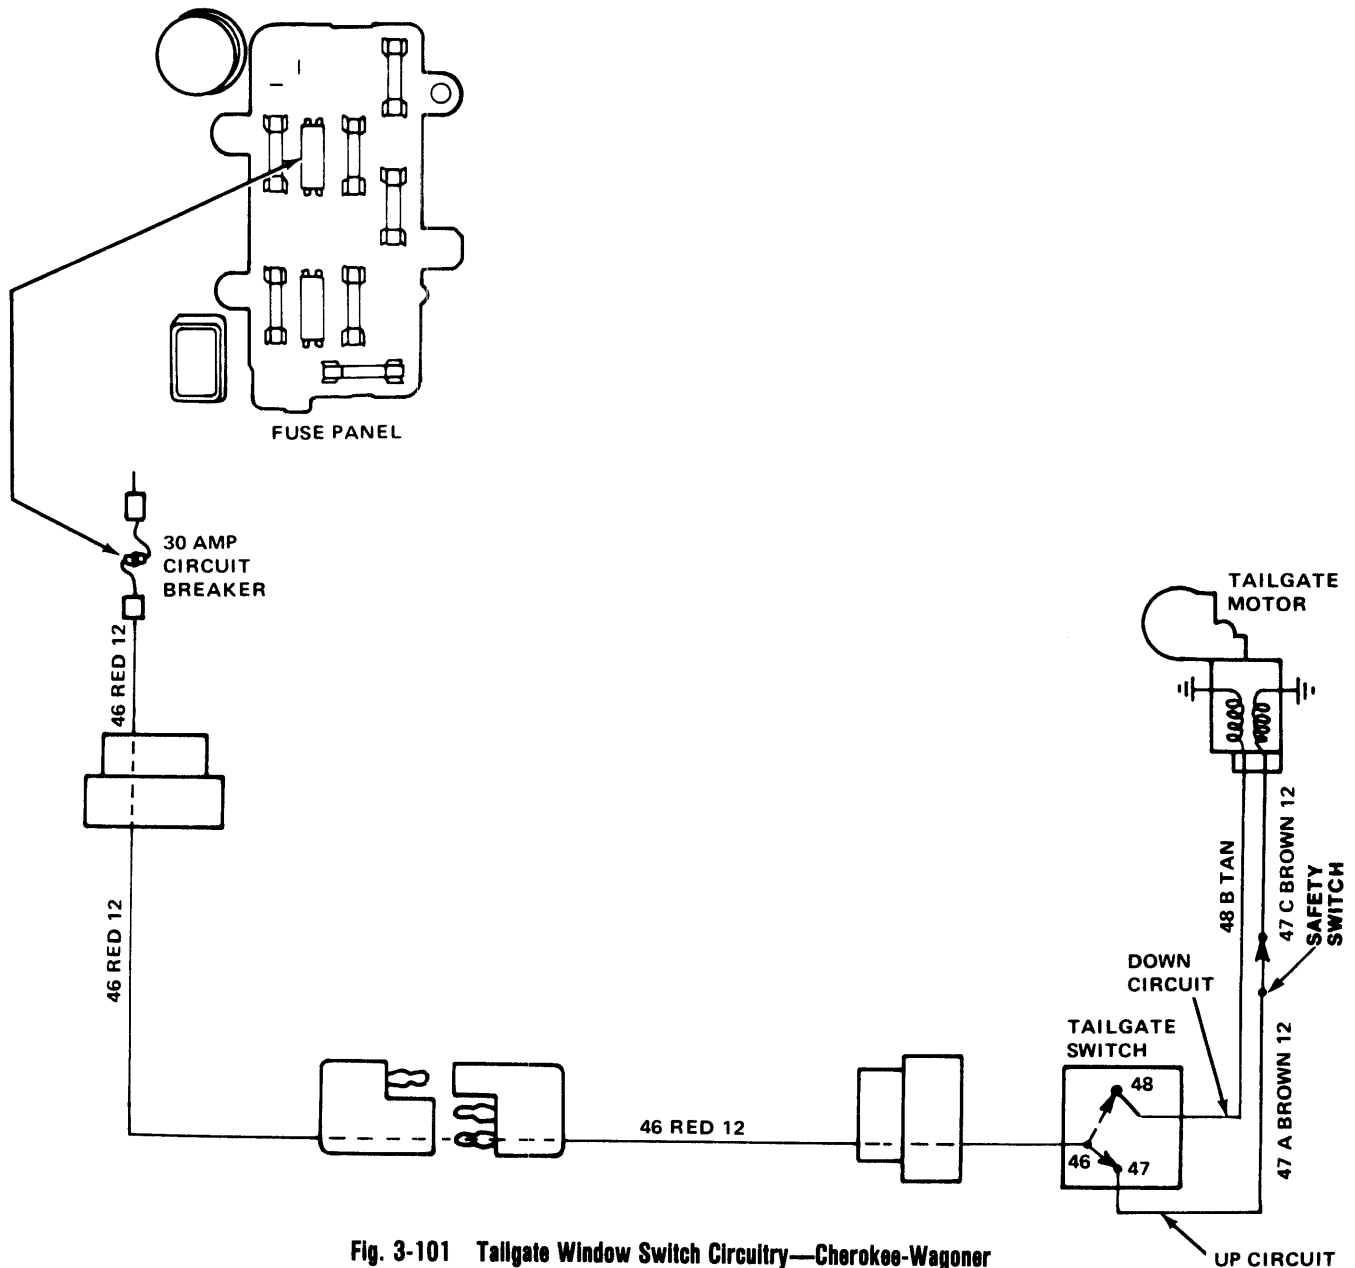

Fig. 3-101 Tailgate Window Switch Circuitry—Cherokee-Wagoner
Voltage is supplied directly to fuse panel, through a 30-amp circuit breaker, and to red (No. 46) wire of tailgate window switch (fig. 3-101).
- (1) Using a 12-vdc test lamp, connect one end of test lamp to ground and place probe to red (No. 46) wire of
tailgate window switch (fig. 3-101). If lamp lights, proceed to step (2). If lamp does not light, repair problem in feed circuit before proceeding.
(2) Place test lamp probe to tan (No. 48A) wire of tailgate switch. Turn tailgate window switch key to down position. If lamp lights, proceed to step (3). If lamp does not light, replace switch.
(3) Place test lamp probe to brown (No. 47B) wire of tailgate switch. Turn tailgate window switch key to up position. If lamp lights, proceed to next test. If lamp does not light, replace switch.
(1) Using a 12-vdc test lamp, connect one end of test lamp to ground and place probe to brown (No. 47A) wire of safety switch (fig. 3-101). Turn tailgate window switch to up position. If lamp lights, voltage is present at switch. If lamp does not light, repair feed circuits as necessary.
(2) Place test lamp probe to brown (No. 47C) wire at switch. Turn tailgate window switch to up position and
(1) Using a 12-vdc test lamp, connect one end of test lamp to ground and place probe to tan (No. 48B) wire at electrical motor (fig. 3-101). Turn tailgate window switch to down position. If lamp lights and motor does not operate, replace motor. If lamp does not light, check feed circuit to motor and repair as necessary.
(2) Place test lamp probe to brown (No. 47C) wire at electric motor. Close safety switch. Turn tailgate window switch to up position. If lamp lights and motor does not operate, replace motor. If lamp does not light, check feed to motor and repair as necessary.